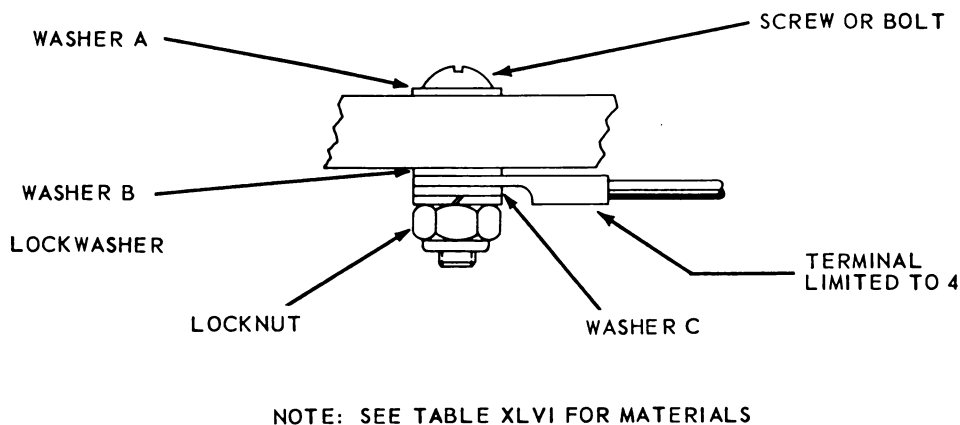

Figure 7-3. Bolt & Nut Bonding or Grounding to Flat Surface
(Refer to Figure 7-3)
c. Nut and bolt connection: (See Figure 7-3 and Table LXVI) In this connection the bolt or screw is not attached permanently to structure. When jumpers are to be added or removed, the entire connection is remade.